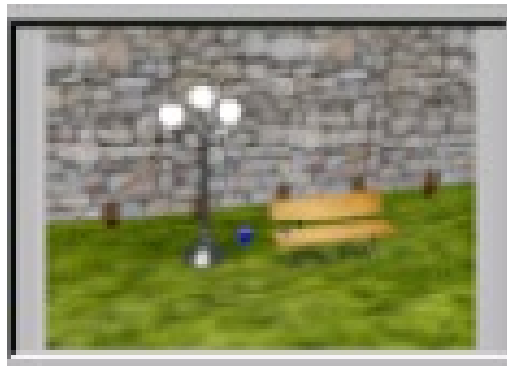

Figure 13-81 The render preview displayed
4. Choose the **Render Preview** button from the **Exposure Control** rollout; the render preview is displayed in the window of this rollout, as shown in Figure 13-81. Minimize the **Environment and Effects** dialog box.